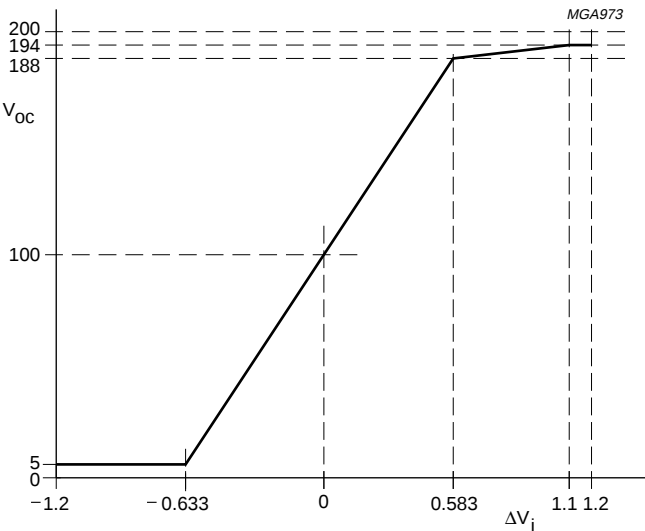

Fig.6 Typical low-frequency ($f < 1$ MHz) response of $\Delta V_{i1, 2, 3}$ to $V_{Oc1, 2, 3}$.
1. See also Fig.6 for the typical low-frequency response of V_i to V_{oc} .